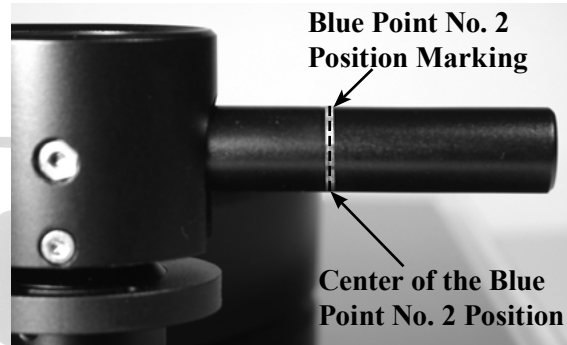

Figure 9
8. Align the inside opening of the Counterweight with the rear end of the Tone Arm. Then slowly rotate the Counterweight until the front vertical surface of it lines up with the center of the Blue Point. The center of Blue Point Position Marking on the surface of the Tone Arm is for the supplied No. 2 Cartridge. Refer to figures 9, 10 and 11.